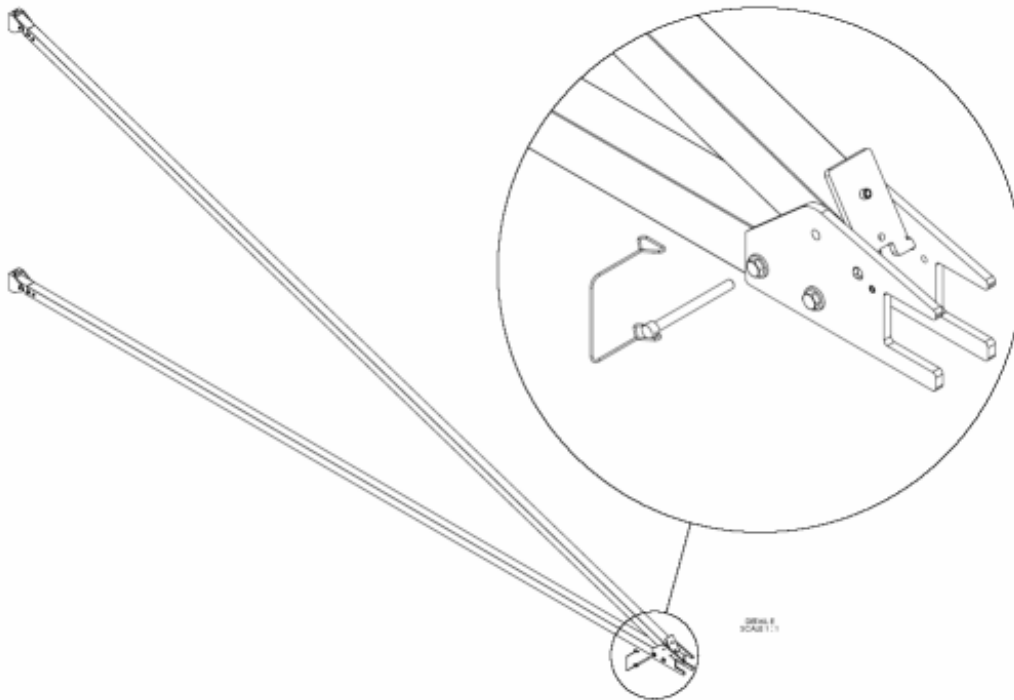

Figure 3 - Attach lower frame tube to upper frame tube
1. Starting with the first frame assembly, rotate the upper frame tube and the lower frame tube (about the pins installed in the trailer brackets) until the hole in the end of upper frame tube aligns with the hole on the side plates of the lower frame tube. **Fig 3** Note that special frame assemblies (ie above door openings, etc...) may be slightly different. The side plate may be attached to the upper tube frame and the lower tube frame may attach (by quick pin) to an intermediate bracket installed on the upper frame tube.